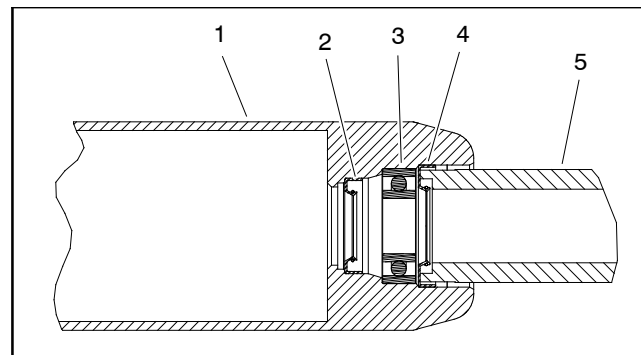

Figure 15
C. Install first outer seal into roller tube making sure that seal lip (and garter spring) faces end of tube. Use bearing/outer seal tool (see Special Tools) and soft face hammer to lightly seat seal against roller shoulder (Fig. 15). Make sure that bearing still freely rotates after seal installation.